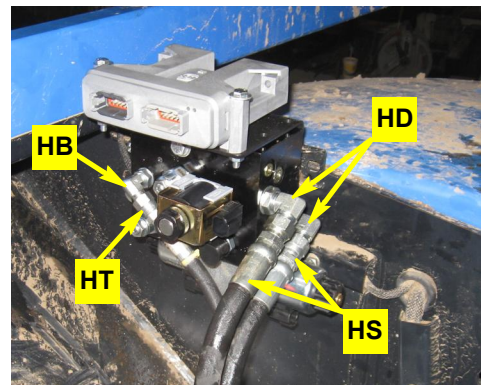

Figure 6a: Installed pressure, tank, and load sense hoses at the steering block
- a. Connect pressure and tank hoses **HS** to adapter fittings **HD** in the **P** and **T** ports of the hydraulic steering block (Figure 6a). Connect the load sense hose **HT** to adapter fitting **HB** in the load sense port of the steering block (Figure 6a).